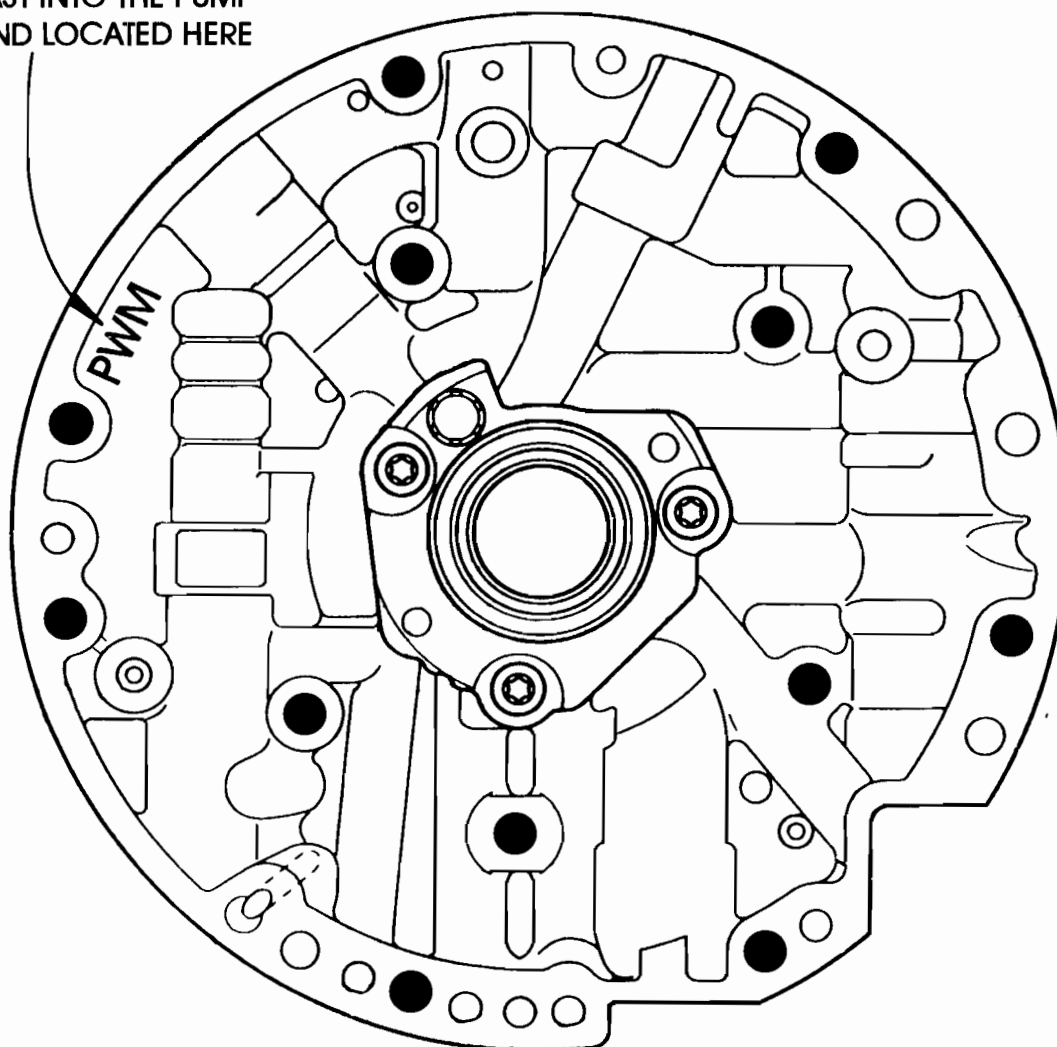

Figure 6
- (4) OIL PUMP COVER (STATOR) - There were changes in the worm track configuration on the new design pump cover to accommodate the added TCC PWM solenoid. The pump cover can be easily identified with "PWM" cast into the pump cover, in the location shown in Figure 6. Refer to Figure 5 for the differences in the worm track area, which we have shaded for easy reference.
- (5) TURBINE SHAFT BALL CAPSULE - Change in orifice sizes to accommodate the added TCC PWM solenoid, and calibrate converter release oil to the new TCC PWM solenoid.